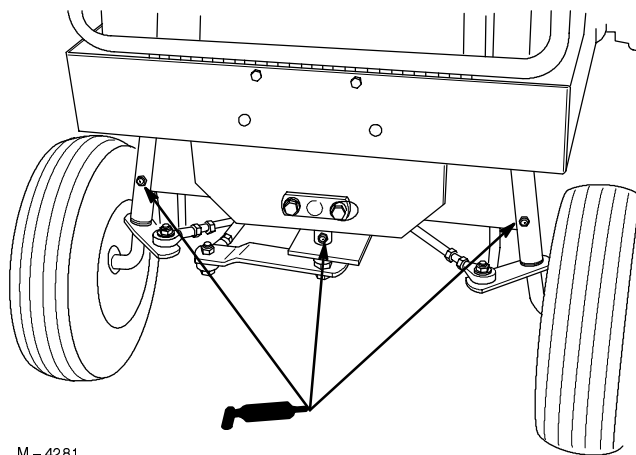

Figure 23
2. Lubricate spindles, steering shaft and pivot (Fig. 23).